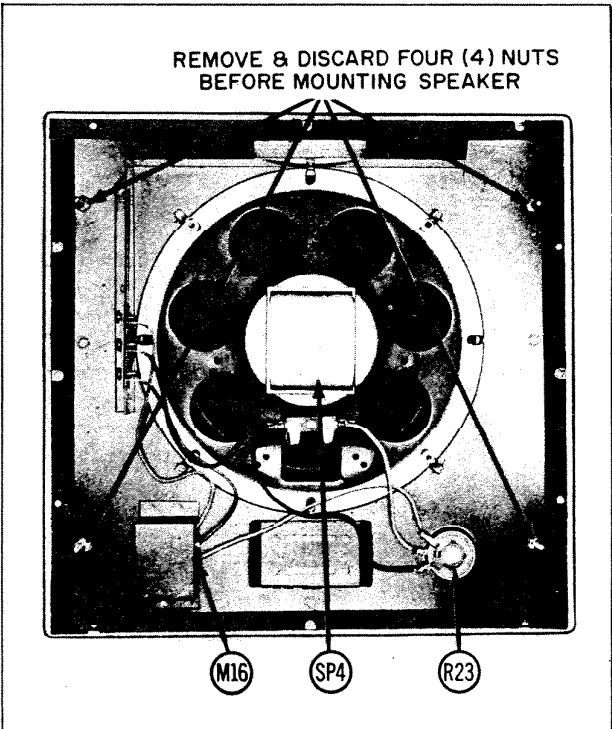

Fig. 9. Rear view of Model 2020 remote speaker station.
1. Remove and discard four nuts from mounting screws (Fig. 9) which secure the finished frame to the speaker plate (see instruction label on finished frame). Remove the four mounting screws and frame from the speaker plate.
1. Remove and discard four nuts from mounting screws (Fig. 9) which secure the finished frame to the speaker plate (see instruction label on finished frame.). Remove the four mounting screws and frame from the speaker plate.